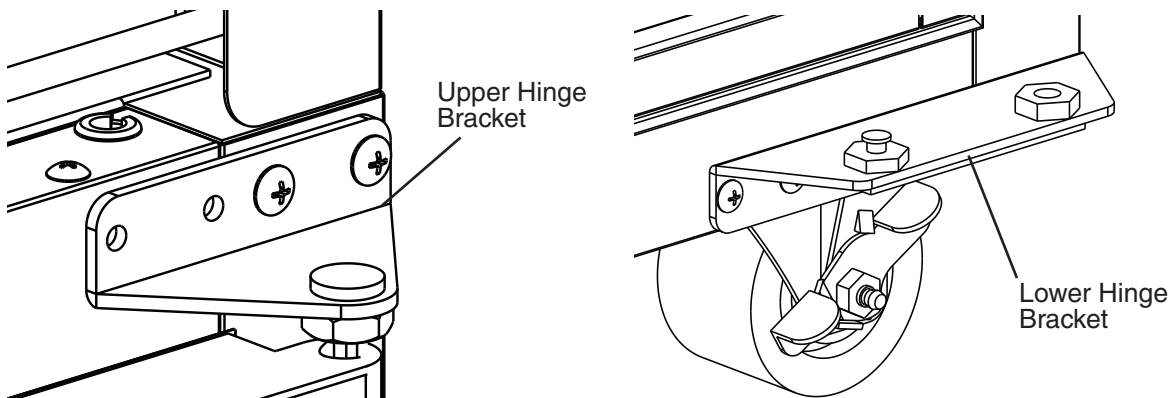

Fig. 31
- 8) Close the door, then remove the screws securing the upper hinge bracket. See Fig. 31.